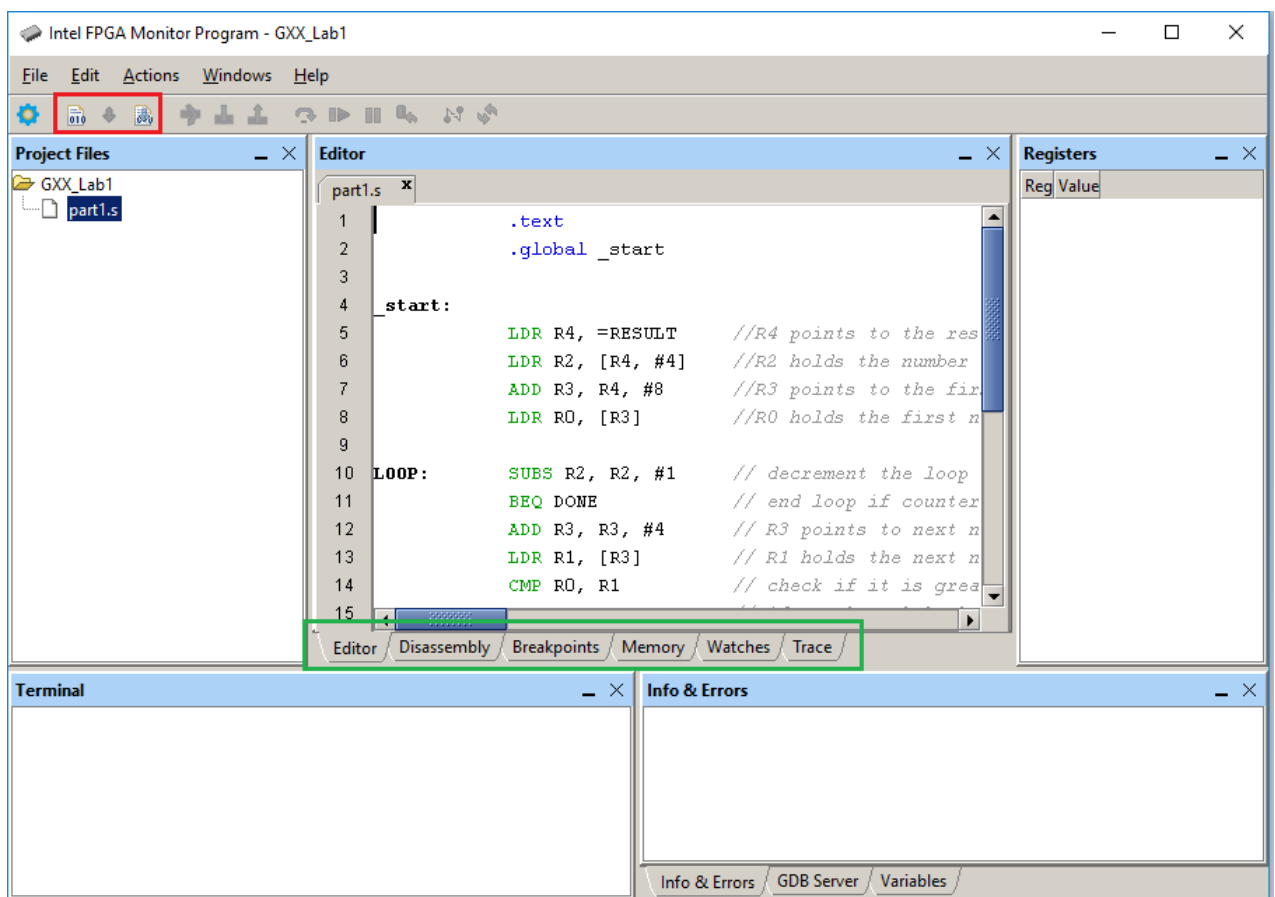

Figure 11: Using the IDE - Development mode
1. Figure 11 shows the useful features of the IDE when a project is opened. We can say that we are now in 'development mode' - where the code is not loaded onto the board and we are in the process of writing code and compiling it to check for errors.